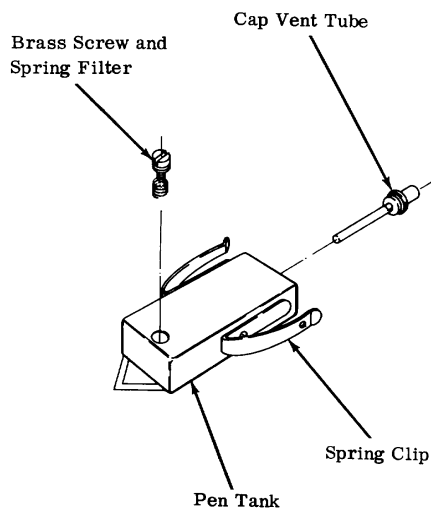

Figure 1
2. Visually inspect or use cap vent tube as a dip stick to check ink supply. (Figure 1)